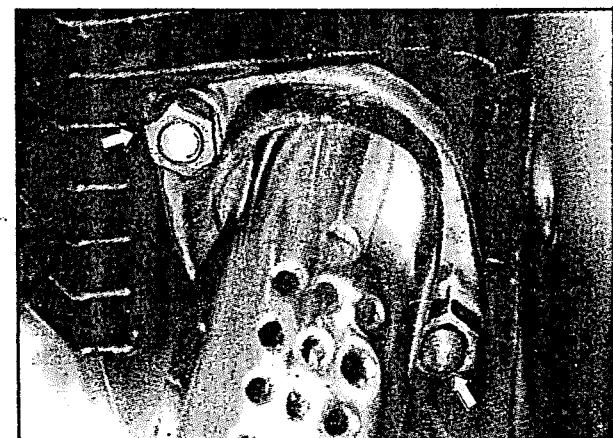

Fig 4.10
- Remove the muffler mounting nut (2 nos) (fig 4.10)